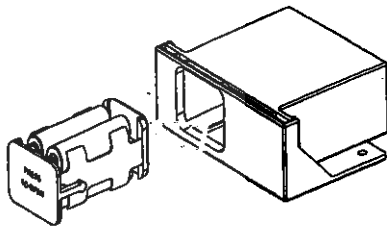

Figure 3
- Slide the battery compartment into the Remote Receiver. See *Figure 3*.